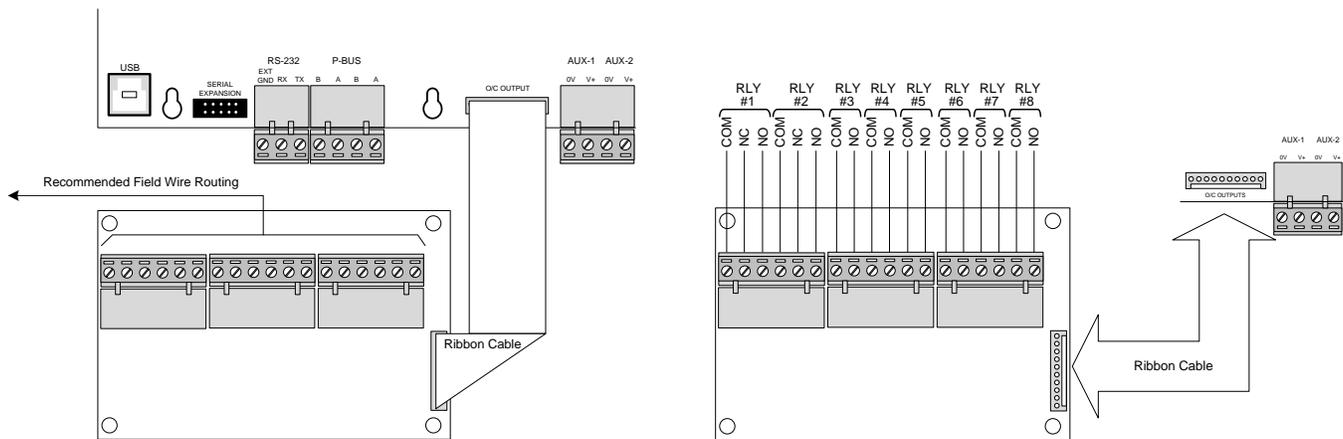

Figure 63 – NX-EM-RL8 Installation and Wiring
Connect the NX-EM-RL8 to the NX-FACP base card with the supplied polarized flat ribbon cable (see figure 63).
Relays one and two (RLY #1 and RLY #2) of the NX-EM-RL8 are Form “C” (common, normally open, normally closed) relay contacts. Relays three through eight (RLY #3 thru RLY #8) are Form “A” (normally open) contacts that can be programmed inverted to create a Form “B” (normally closed) relay contact (see figure 63).
If replacing an NX-EM-RL8 eight relay output module, remove AC and DC power from the system. Remove the three (3) pluggable terminal blocks and the flat ribbon cable originating from the O/C Output of the NX-FACP base card. Remove the four (4) screws holding the module to the back box. Position the new NX-EM-RL8 module onto the back box standoffs and secure with the four (4) removed screws. Reconnect the three (3) removed pluggable terminal blocks and the flat ribbon cable originating from the O/C Output of the NX-FACP base card (see figure 63). Reconnect removed AC and DC power.